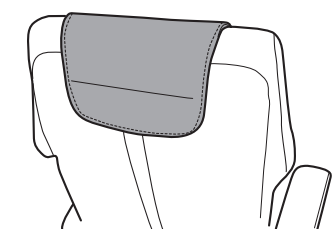

Fig.31
10. Place the neck pillow at the desired height; a magnet holds it in position (Fig.31).